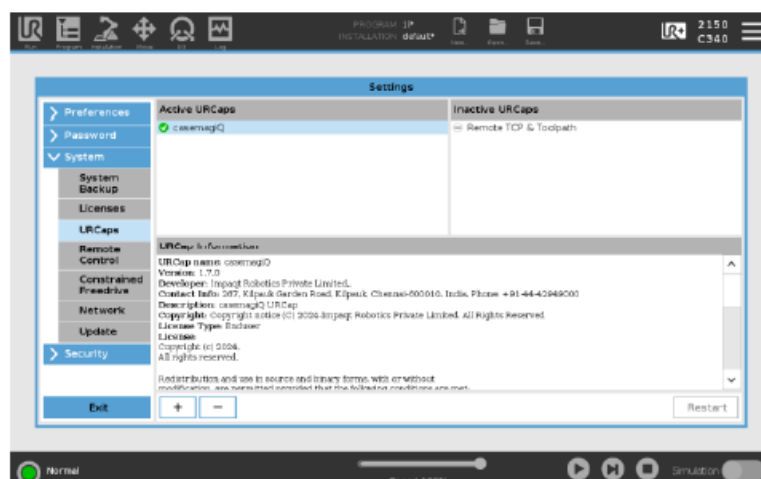

Figure 5: Ensure that there is a green check mark next to casemagiQ
6. Once the URCap is installed, ensure that there is a green check mark next to pneumagiQ in the Active URCaps section as shown in Figure 5.